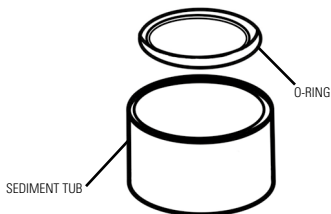

FIGURE 9.4
- C.** Reinstall the cup and the sealing O'ring. Figure 9.4.